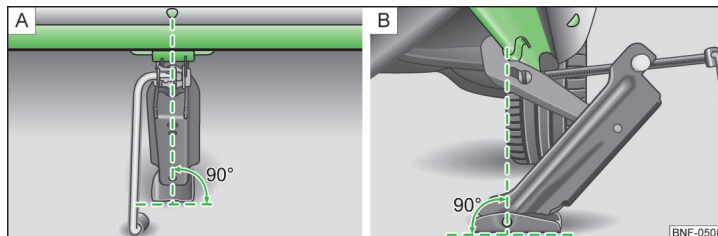

Fig. 112 Attach lifting jack
- Support the base plate of the jack with its full area resting on level ground and ensure that the jack is located in a vertical position at the jacking point » Fig. 112 - **A**.
- Position the lifting jack below the jacking point with the crank and move it up until its claw encloses the web » Fig. 112 - **B**.